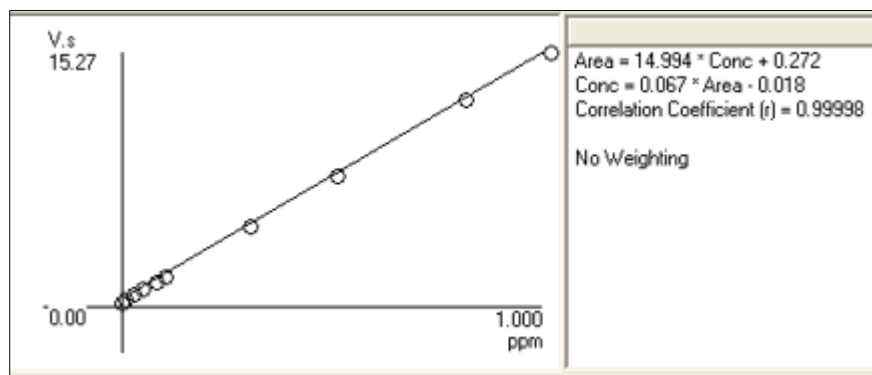

Figure 4.40. Ammonium Calibration Curve
- 3) Table 4.39 lists a suggested calibration series. Figure 4.40 illustrates a calibration curve using these standards.